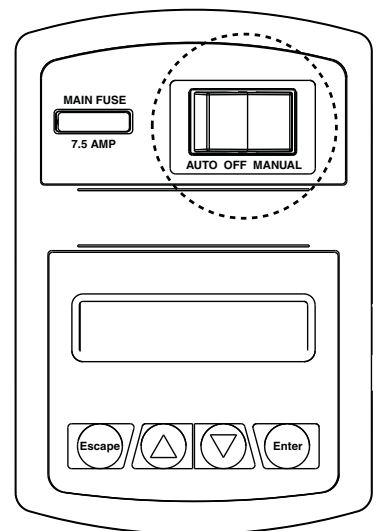

Figure 2
4. Turn the Auto/Off/Manual switch to the Off position (Figure 2).
5. If the generator will be left off for longer than 1 hour without utility present remove the 7.5 Amp Main Fuse from the control panel (Figure 2). This will prevent the control panel from running down the battery.